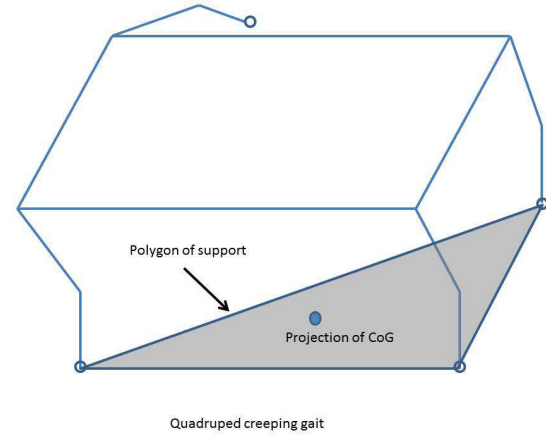
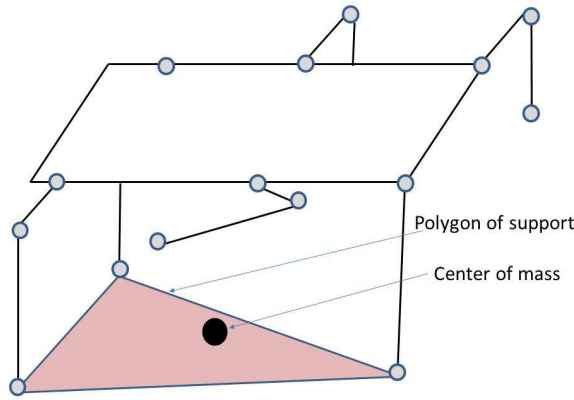
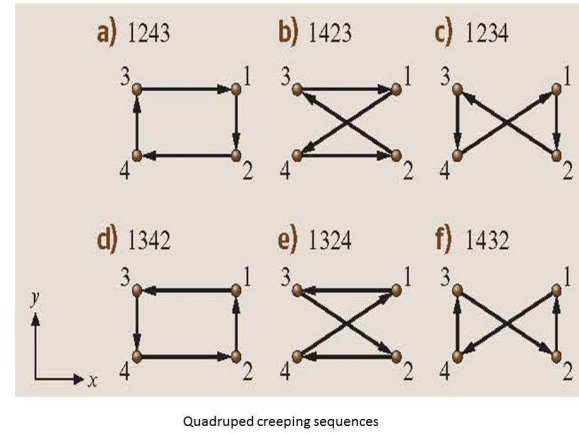

Fig. 11. The creeping gait
Fig. 10. A six legged robot
Fig. 12. The six sequences of the creeping gait
Compared with bipeds, multi-legged robots have a wider choice of foot placing to maintain static balance. From this reason, many research works have concentrated on gait planning for statically stable walking rather than treating dynamic stability. For the six legged robot shown in figure 10, the support polygon is a triangle, which corresponds to stable static walking (static stability requires that at any time, three legs are on the ground). For quadruped robots to walk keeping static stability (figure 11), the robot must lift and place only one leg at each step. This is called creeping gait. In this case,
there are 6 gaits as illustrated in figure 12. We begin with leg 1 as the first swing leg.
- Static walking: The wave gait shown in figure 11 represents static walking for a four legged robot. The robot lifts and places one leg at each step. This is called creeping gait. There 6 sequences in this case as shown in figure 12 where leg 1 is the swing leg.